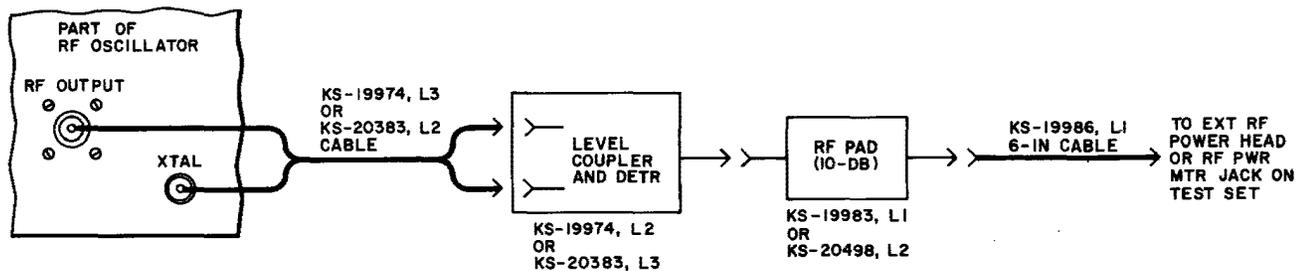

Fig. 1—RF Oscillator Output Power Adjustment
- 2 Connect the test setup as shown in Fig. 1.